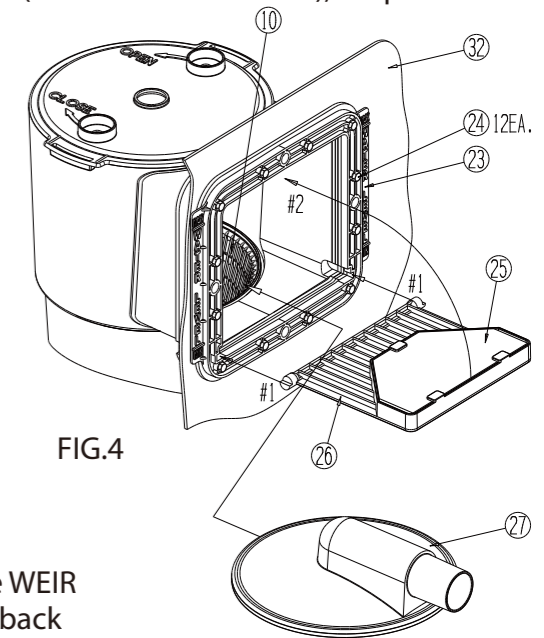

FIG.4
E. Place the Filter Cartridge (9) and the Strainer Basket (10) back into the Skimmer Canister (8). It is important that the Filter Cartridge (9) slips over the Pump Retaining Nut (7) and seals at the bottom of the canister so that the Strainer Basket (10) will seat in it's groove inside the canister. See Fig. 4. Place the Lock Top (11) on top of the Skimmer Canister (8) and lock it in place by turning it clockwise until it is locked. Push the Weir Foam Pad (25) into the Weir (26) and under the tabs, to hold it in place. Take the Weir (26) and slide it into the grooves from inside the pool. See Fig. 4. Once the weir is pushed inside the grooves, flip it over as shown by the Arrow #2 in Fig. 4, to lock it in place. NOTE: The weir can ONLY be pushed into the grooves as shown by Arrows #1 in Fig. 4, by holding it horizontal. Be sure the weir moves freely through the opening, if not carefully trim away any obstructing material to allow the weir to move freely.
F. After the pool is filled, SEE (WATER LEVEL FIG. 4) check the hose connections and fittings to make sure there is no water leakage. If any leaks are found, see #4 in the Trouble Shooting guide on page #8.
B. **VACUUM ADAPTER USE;** allows you to vacuum your pool, see part # 27 FIG.4 The VACUUM ADAPTER is included with the SKIMMER unit, it will be necessary for you to purchase a Vacuum, Vacuum handle, and a Vacuum hose from your local pool supply retailer, also your home improvement centers, and large retail stores sometime carry these as seasonal items and they range from economy to deluxe.
C. To install the VACUUM ADAPTER turn off your pump, remove the WEIR part # 26 FIG. 4, see the section on WEIR installation page 4 (step E) and reverse the process by lowering the WEIR and sliding it out through the openings in the FACE PLATE part # 23 shown in FIG 4. Place the WEIR in a safe place because you need to reinstall it after vacuuming so that your skimmer operates properly.